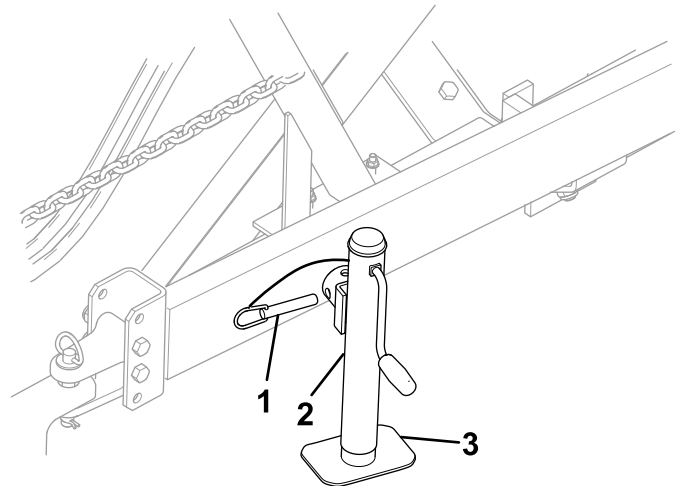

Figure 17
2. Rotate the jack vertical (Figure 17).
3. Align the hole in the storage tube with the hole in the jack (Figure 17).
4. Insert the pin through the holes in the storage tube and jack (Figure 17).
2. Rotate the jack handle to fully raise the jack pad; refer to Figure 17.